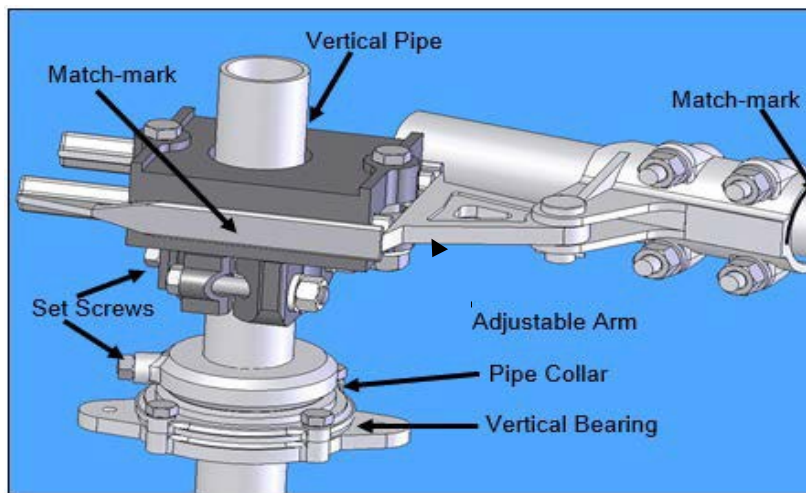

Figure 12: Typical Operating Arrangement
- 5.6 Refer to the Operating Mechanism drawing and install all mounting brackets, bearings, bushings, pipe clevises, switch operating device, adjustable arm, reach rod, and other necessary components. Refer to **Figure 12**. Do not connect the interphase pipe at this time.
- 6.1. The operating mechanism is intended to fully open and fully close the disconnect switch by rotating the vertical operating pipe $180^{\circ} \pm$ using an operator (manual or motor). The interphase pipe controls the individual operation of each switch pole, using a push/pull control. The reach rod translates the motion of the vertical operating pipe to the interphase linkage. The adjustable arm (**Figure 12**) controls the total amount of switch operation available.